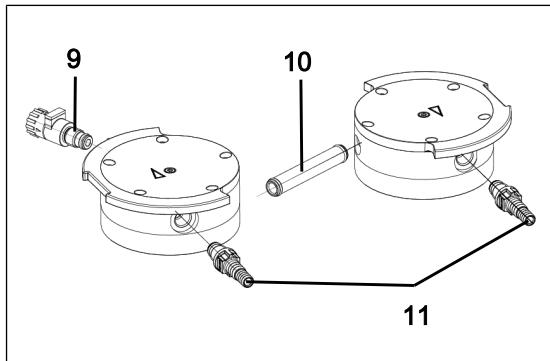

Fig.10: Changing O-rings
2. Pull the connection tube (10/Fig. 10) out of the head plate (3).
3. Replace the two O-rings on the connection tube (**10**/Fig. 10).
6. Unscrew the gas ballast (**9**/Fig. 10) from the head plate (**3**).
7. Replace the O-ring on the gas ballast (**9**/Fig. 10).
8. Screw the gas ballast (**9**/Fig. 10) into the corresponding head plate (**3**) as far as it will go. Then turn it back again until the surface is oriented upwards.
9. Unscrew the hose connections (**11**/Fig. 10) from the head plate (**3**) using the tool supplied.
10. Replace the O-rings on the hose connections (**11**/Fig. 10).
11. Screw the hose connections (**11**/Fig. 10) into the head plate (**3**) hand-tight using the tool supplied.
7. Insert the connection tube (**10**/Fig. 10) into the head plate (**3**).